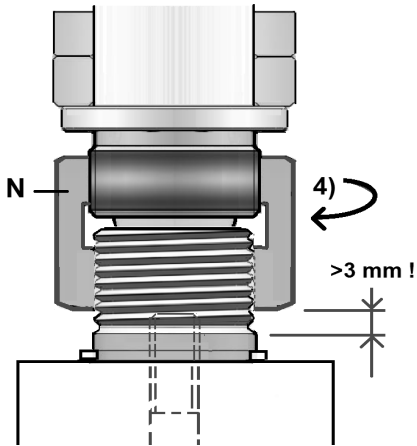
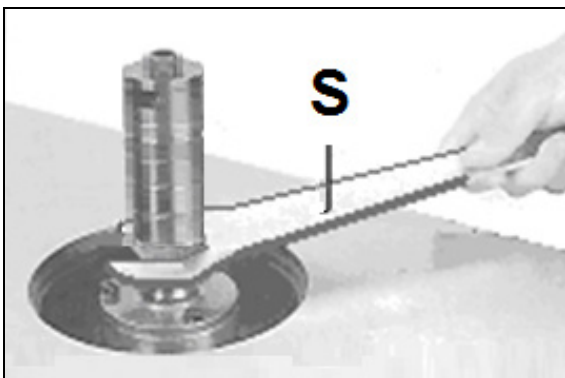

Fig 14
Fig 15
4) Firmly tighten the arbour nut (N, Fig 14) using the supplied spanner (S, Fig 15).